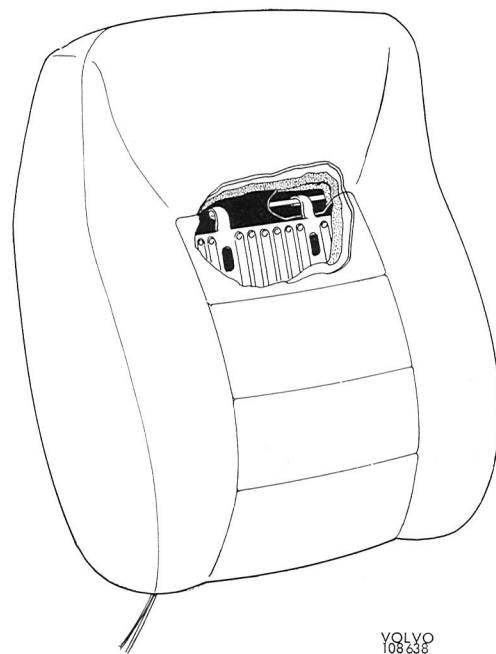

Fig. 8-59. Seat back heater pad attachment
7. Put the seat back on the side. Push the hands in under the upholstery, one on the front side, one on the rear side, and unhook the heated pad from the frame, see Fig. 8-59. Remove the heater pad.